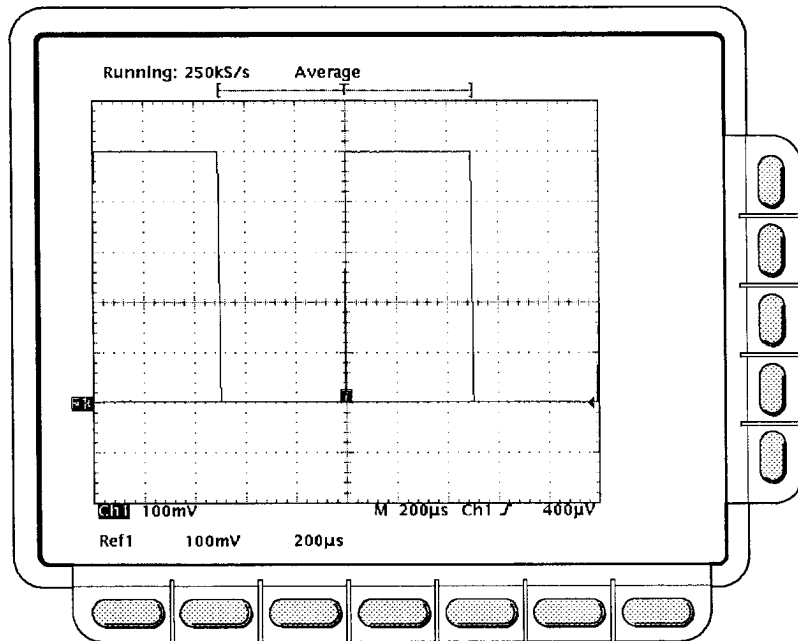

Figure 4-23: Measurement of Probe Compensator Amplitude
- d. Press **CLEAR MENU** to remove the menus from the display. See Figure 4-23.